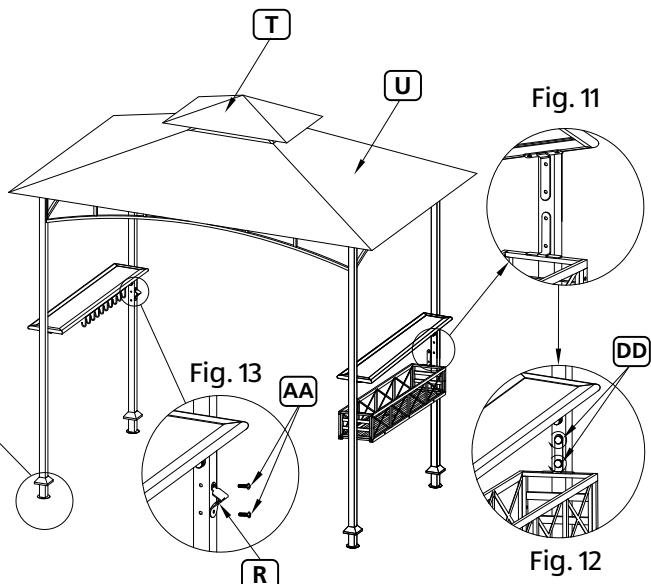
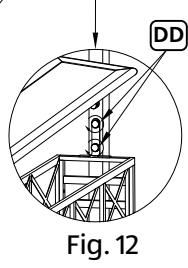

Fig. 11
Fig. 12
Insert Knob Screws (DD) through the braces on Basket Ends (K), and into the remaining bolt-threading inserts found on Poles (B & C), see Fig. 11 and Fig. 12. Tighten the Knob Screws (DD) completely to hold the basket in place.